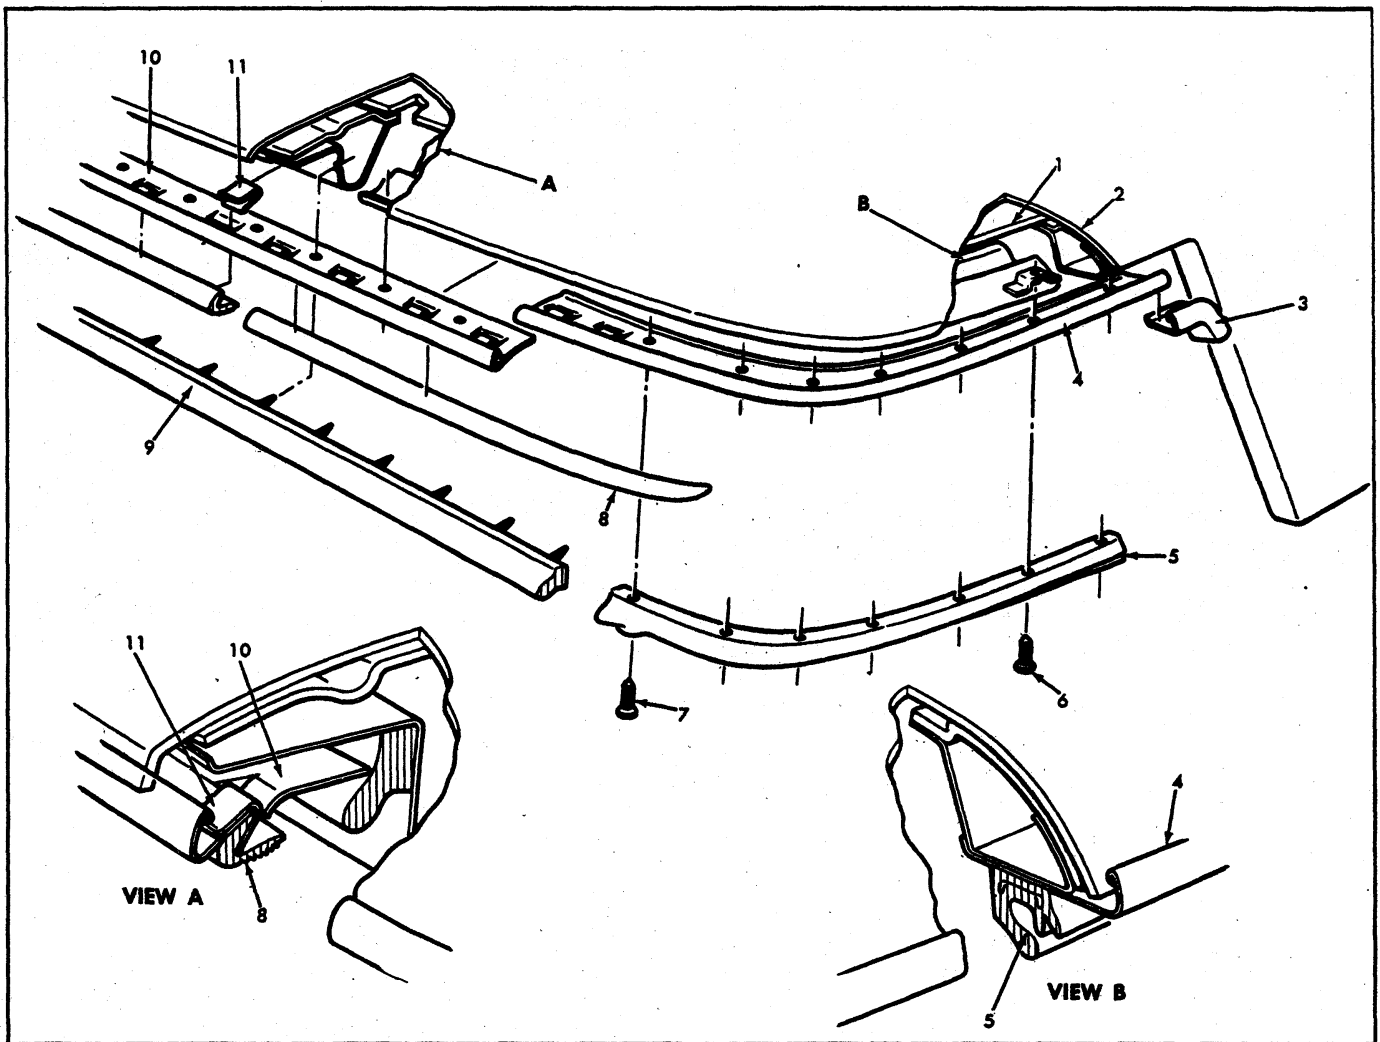
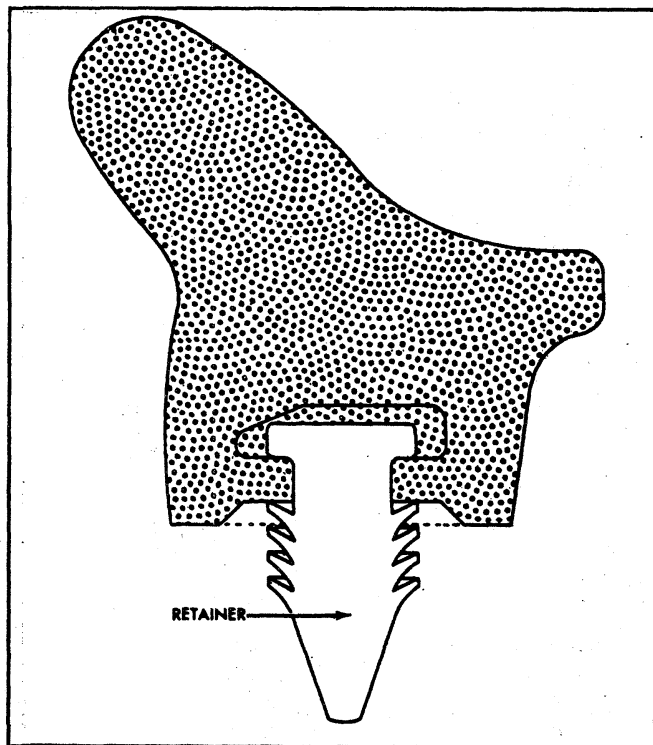

Fig. 97—Weatherstrip and Drip Moldings
Fig. 99—Inner Forward Weatherstrip
Figure 97 and 98 illustrate installation of moldings and weatherstrips on a hard top. Assembly and disassembly of many of these parts will be apparent upon study of the figures, but do not attempt servicing until reading the following special information.
Outer Weatherstrips (Item 8, Fig. 97)
Outer weatherstrip is attached to drip moldings with retainers as shown in view A, Figure 97. To replace weatherstrip, the weatherstrip drip molding assembly is removed from the top as a unit and the weatherstrip may then be removed from under retainers. Replace any broken or distorted retainers with new parts. Do not install drip molding-weatherstrip assembly until familiarizing yourself with Special Sealer information which follows weatherstrip instructions.
Inner Forward Weatherstrips (Item 9, Fig. 97)
5, Figure 97) and are retained to the top frame with barbed plastic retainers which are pushed into holes in frame. Figure 99 shows a cross section of weatherstrip and retainer.
- Figure 97 Item 3
- Figure 97 Item 4
- Figure 97 Item 10